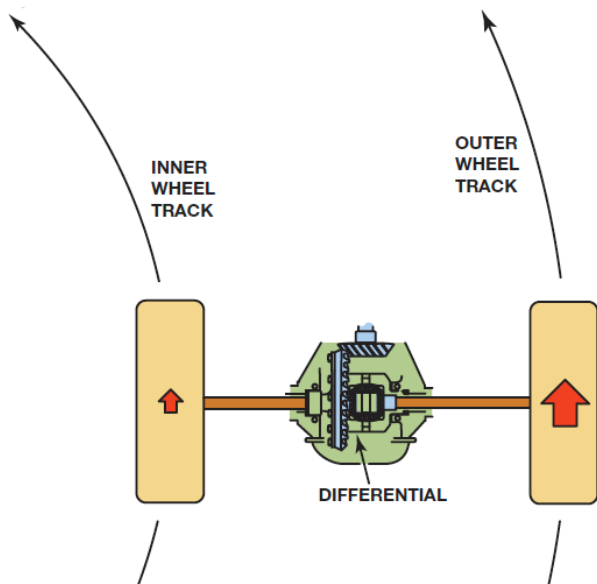

Figure 2. The differential allows the wheels to rotate at different speeds when cornering.
2. Allowing the drive wheels to rotate at different speeds when turning— This is achieved using a differential assembly. Figure 2.